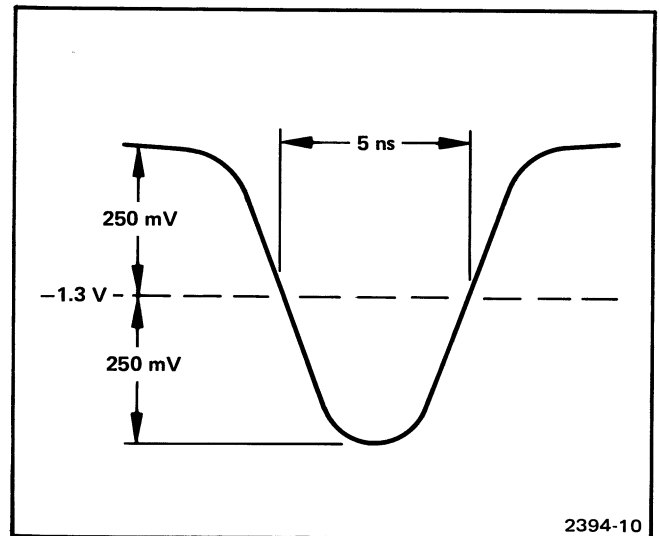

Fig. 3-5. 485 Oscilloscope Display.
l. Adjust PG 502 Pulse Generator Output (volts) Hi-Low Level for ± 250 mV from a threshold voltage of −1.3 V as displayed on the 485 Oscilloscope. (See Fig. 3-5.)
m. Adjust PG 502 Pulse Generator Pulse Duration Variable control for a 5 ns pulse width at the −1.3 V (threshold voltage) level as displayed on 485 Oscilloscope. (See Fig. 3-5.)
Throughout the above procedure maintain the correct display (as shown in Fig. 3-5) on the 485 Oscilloscope.